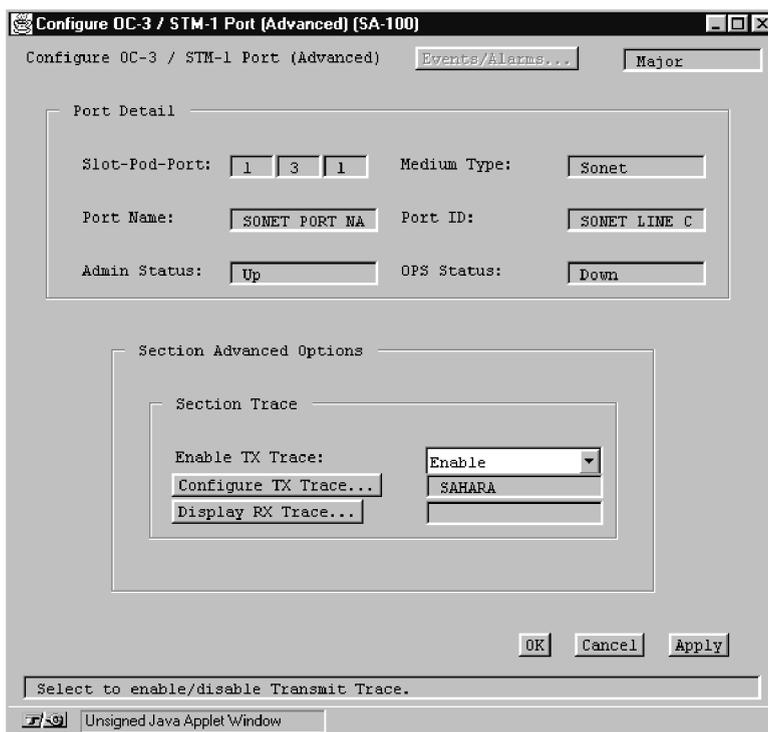

Figure 4-23. Configure OC-3/STM-1 Port (Advanced) Window
1. Choose the Advanced Options in the Configure OC-3/STM-1 Port window. The Configure OC-3/STM-1 Port (Advanced) window appears (see Figure 4-23).